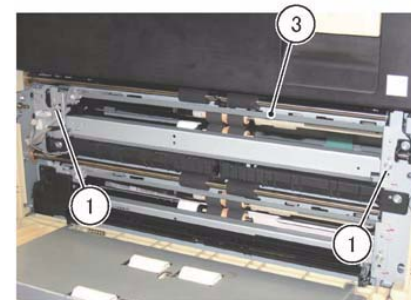

Figure 3 Tray 3 Feeder Assy Removal
7. Remove the Tray 3 Feeder Assembly. (Figure 3)